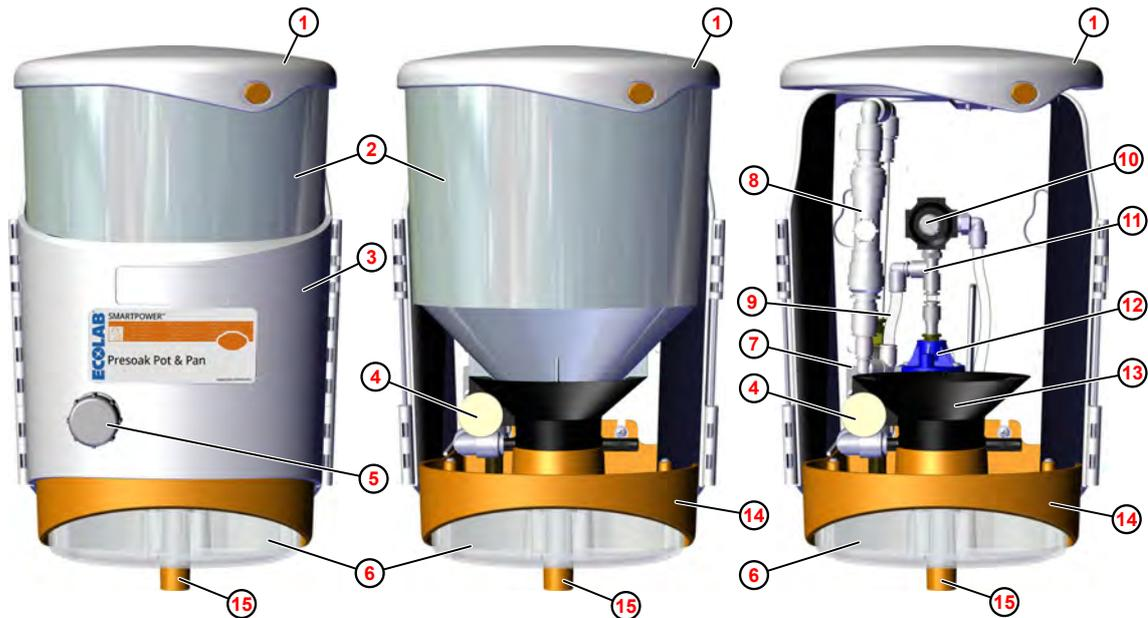

Fig. 1: Design
The SMARTPOWER™ RTU Dispenser is an automatic dispenser for Ecolab's compressed capsule products (SMARTPOWER™). It essentially consists of a base (Fig. 1 , ⑭) and a product cylinder with product feed ② to accommodate the compressed detergent capsule.